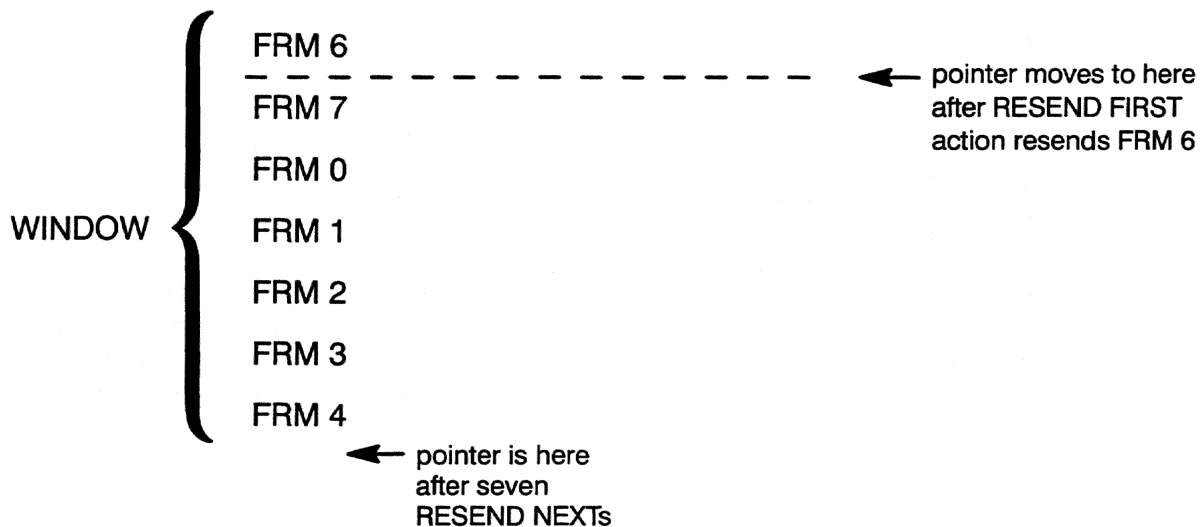

Figure 43-29 RESEND FIRST resets the pointer, allowing you to resend the entire window repeatedly.
1. *Resend first/next.* RESEND FIRST means that the resend—pointer is reset to the beginning of the window, the first frame in the window is resent, and the pointer is advanced to the second position in the window. The effect of a RESEND FIRST action is illustrated in Figure 43-29.